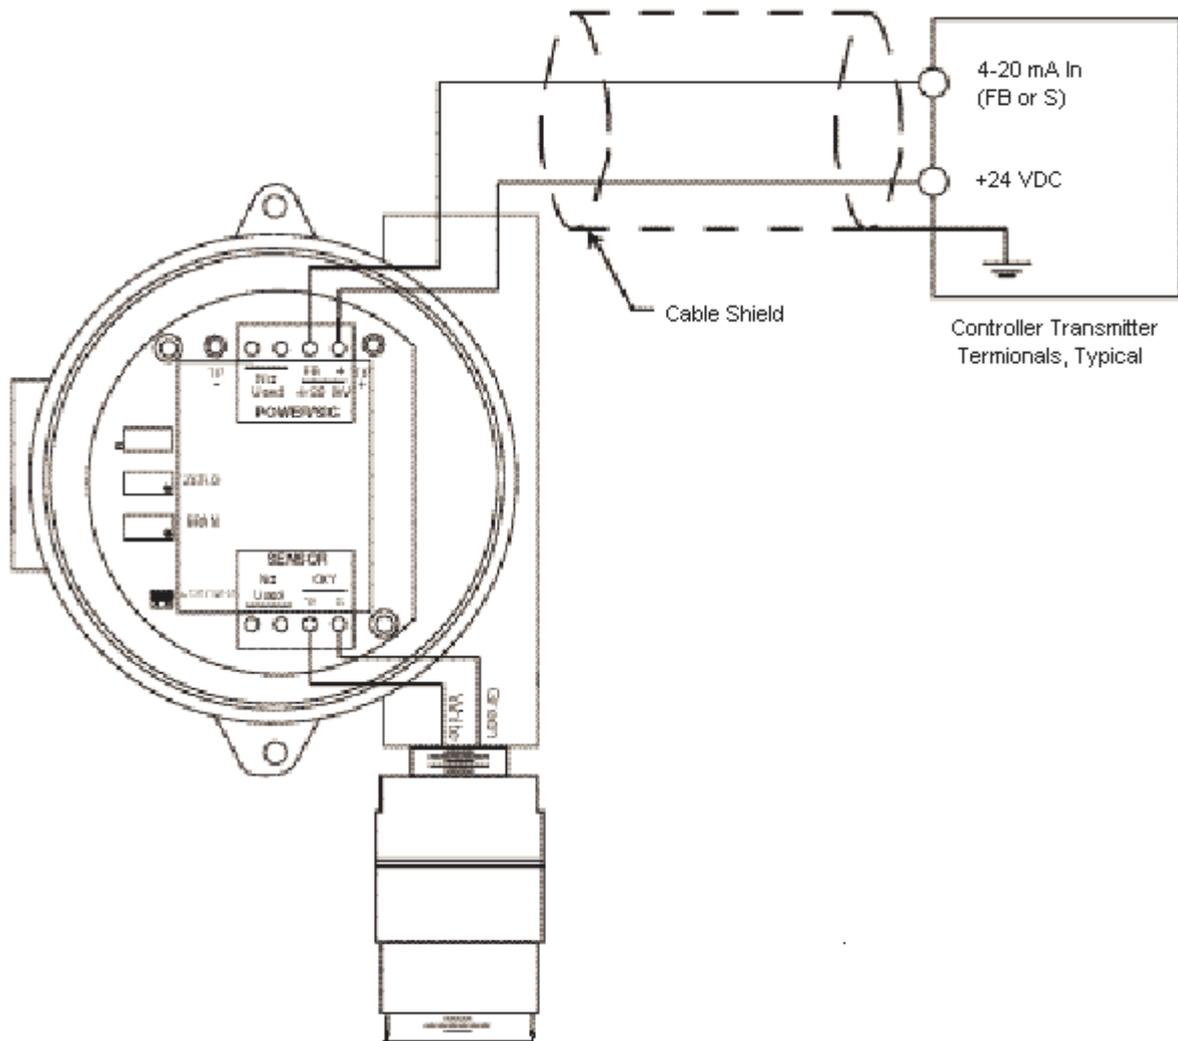

Figure 3: Wiring the Oxygen Transmitter to a Controller
7. Connect the two wires to the interconnect terminal strip as follows (see Figure 3.)
10. Connect the wires to the applicable controller transmitter terminal strip as shown in Figure 3.
10. Reconnect the wiring from the controller to the interconnect terminal strip as shown in Table 3 and Figure 3.
11. Reconnect the detector leads to the detector terminal strip as shown in Table 4 and Figure 3.
7. Connect the detector leads to the detector terminal strip as shown in Table 5 and Figure 3.